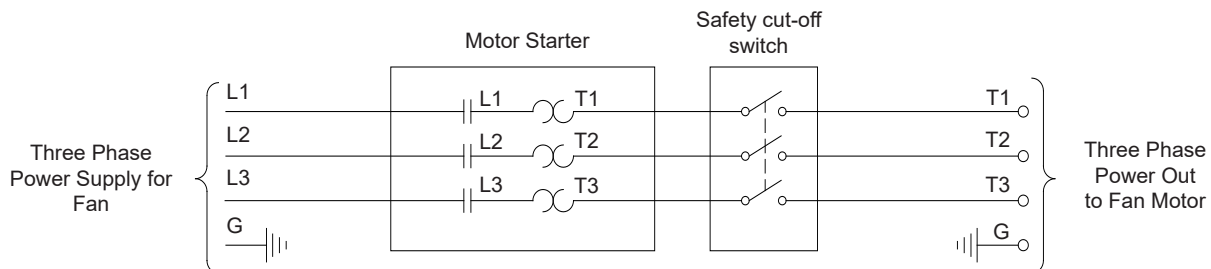

Figure 32B
**Three Phase Fans:** motor overload protection should be provided for each fan. A three-pole motor starter or slow blow motor fuses must be used. See Figure 32B.